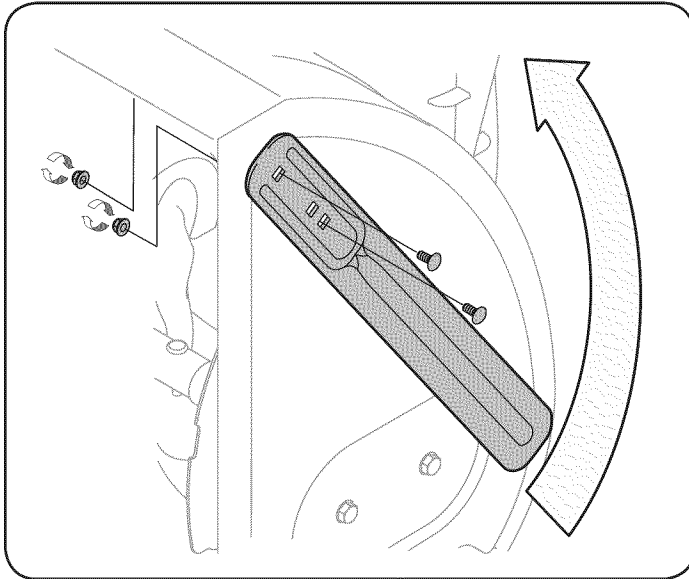

Figure 9
1. Remove the four flange nuts (two on each side) and carriage bolts. Place drift cutter in upright position and re-secure. See Fig. 9.